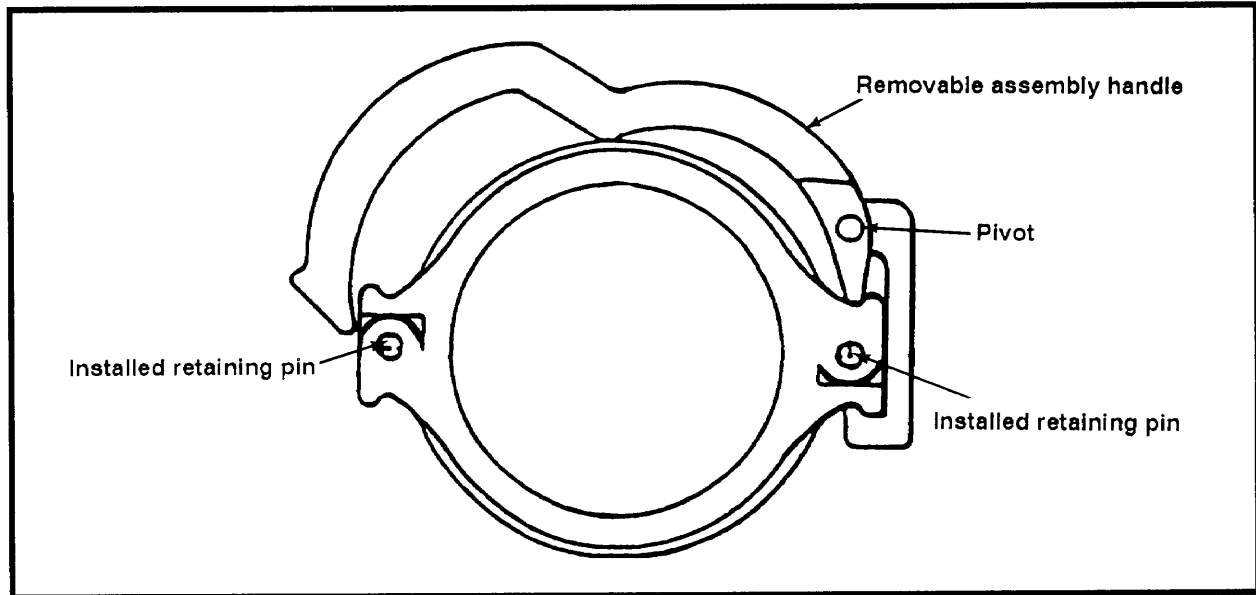

Figure 2-3. Hinged snap-joint coupling
b. *Aluminum Pipe Coupling.* The hinged snap-joint coupling, which is standard for single-grooved aluminum pipe, is available with either a one-piece separate gasket or a two-piece integral gasket (Figure 2-3). The coupling consists of two sections that are hinged together and a pin for closing the coupling over the pipe ends. The coupling and gasket are designed to seal under pressure and vacuum. The hinged coupling allows for a 2 percent deflection between joints and a maximum allowable working pressure (MAWP) of 740 psi.